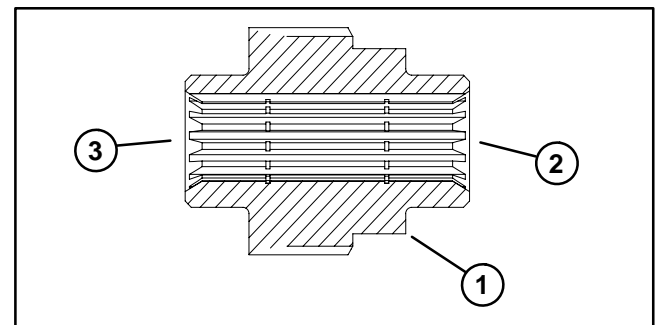

Figure 2
**Note:** The stepped end of the coupler must be installed toward the hydraulic wheel motor (Fig. 2).
3. Install four (4) flange head screws to secure brake assembly to frame. Torque screws in a crossing pattern from 75 to 85 ft-lb (101 to 115 N-m).